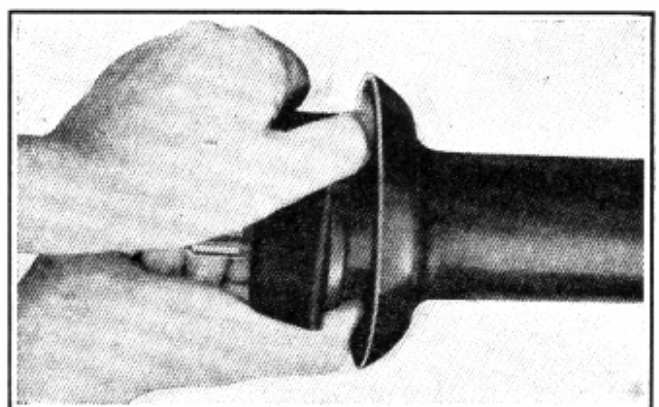

Fig. 48—Removing or Replacing Bearing Rubber Cushion
10. After the support bracket has been removed the rubber cushion can be removed from the bearing with the hands as shown in Fig. 48.
3. Install the rubber cushion over the bearing as shown in Fig. 48.